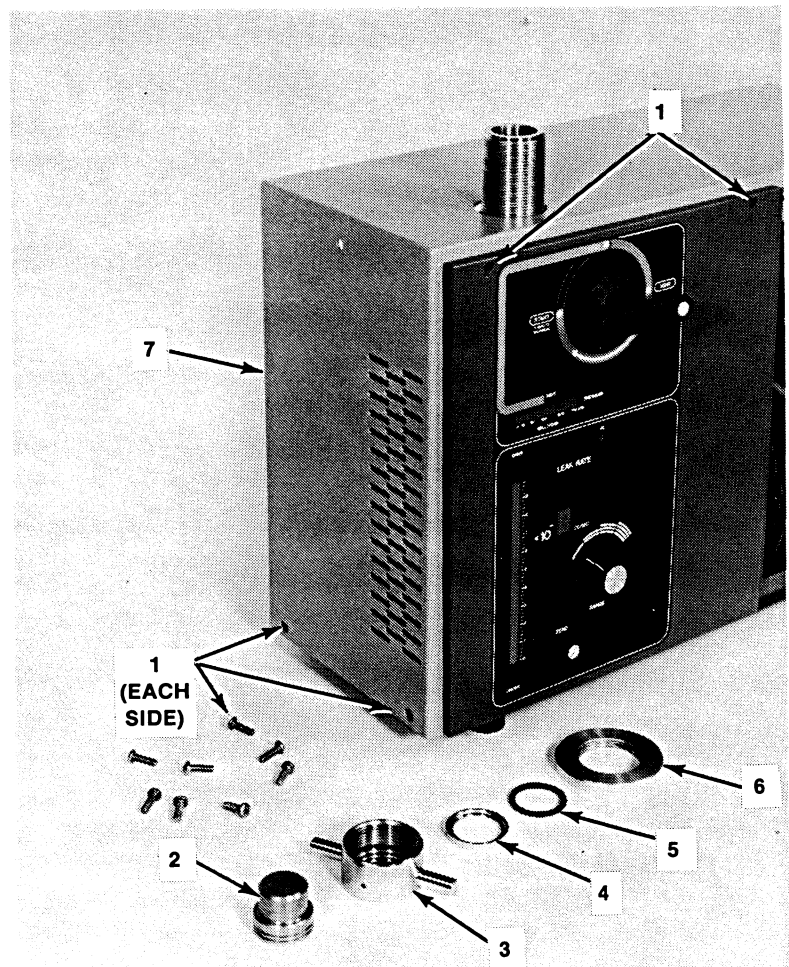
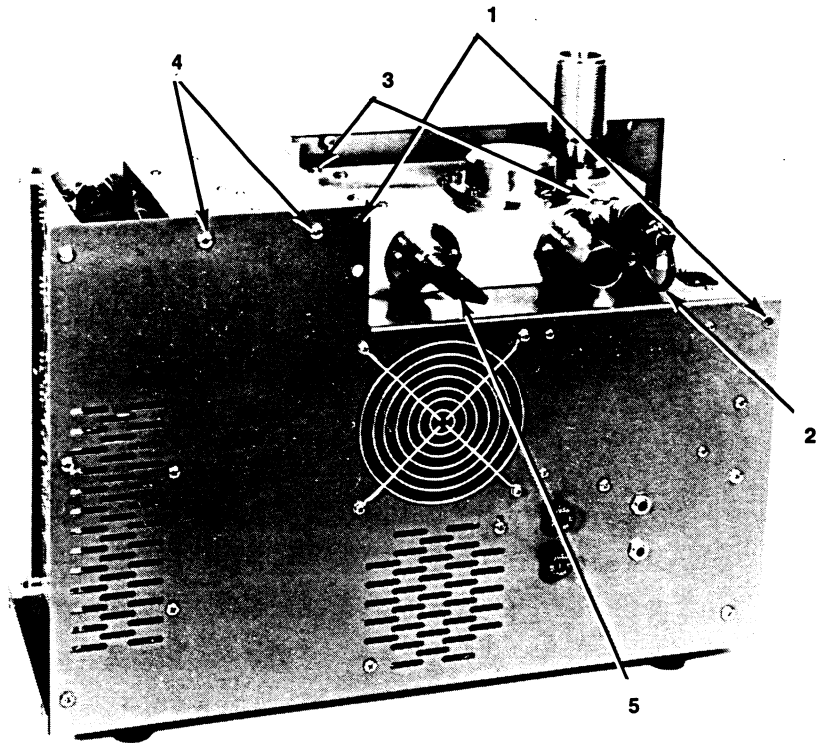
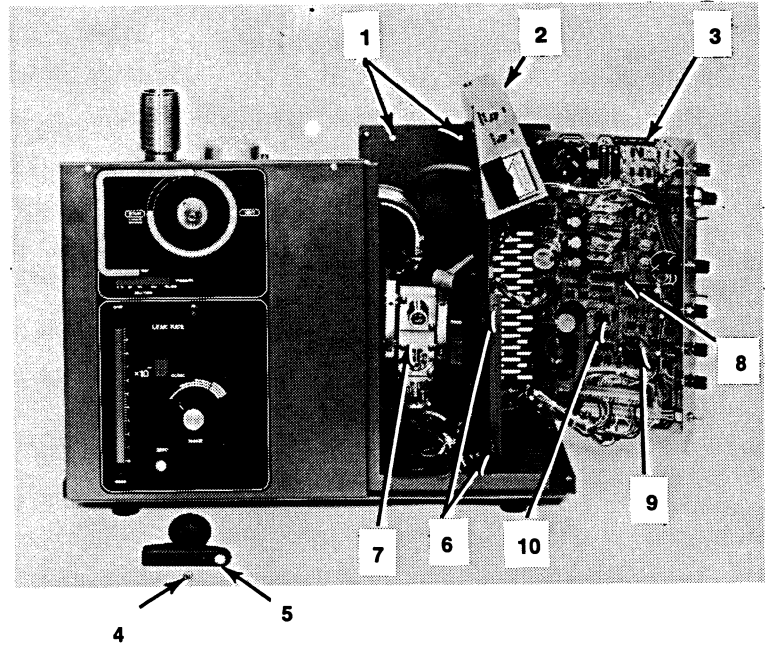

Fig. 4-2. Test Port Components Removed
Fig. 4-3. Rear View of Leak Detector, Cover Removed
Fig. 4-4. Leak Detector With Cover Removed and Main Electronics Assembly Swung Open
8. Remove test port cap (3, Fig. 4-2), O-ring, (5), O-ring follower (14), and test port nut (6).
9. Remove eight screws (1, Fig. 4-2) and (1, Fig. 4-3) that hold cover assembly (7, Fig. 4-2) to chassis and front panel. Slide cover assembly up and off unit.
10. Remove operating handle (5, Fig. 4-4) after first removing screw (4).
1. Remove two screws (6, Fig. 4-4) and swing main electronics assembly (3) all the way to the right.
2. Remove two screws (4, Fig. 4-3) behind high voltage enclosure (2, Fig. 4-4) and then swing enclosure clockwise (upward) to the 90-degree position.
3. Remove three electrical plugs at top of spectrometer tube (7). Then unplug the spectrometer tube heater.
5. Remove four screws (3, Fig. 4-3) at corners of valve block. (Screws are #10-32 x 2½" long.)
6. Disconnect thermocouple gauge electrical cord (2).
8. Disconnect diffusion pump (3) from valve block assembly (4) by removing three 2-inch long screws (5).
9. Disconnect spectrometer tube by removing KF flange (6). You now have three separate assemblies: valve block, diffusion pump, and spectrometer tube.
- 3. Bolt valve block assembly to cabinet, using four 2½” long screws (3, Fig. 4-3).
- 9. Swing high-voltage enclosure (2, Fig. 4-4) downward, then secure with two screws (1).
- 10. Swing the main electronics assembly (3, Fig. 4-4) inward and secure with two screws (6).